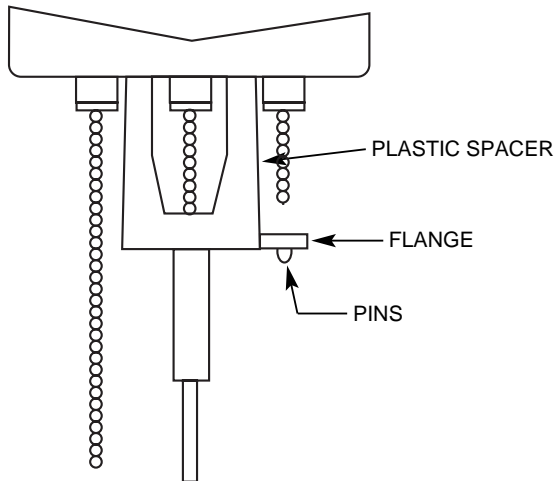

Figure 10
B. Locate the (3) pins at the bottom of the (3) flanges on the plastic spacer. See Figure 10.